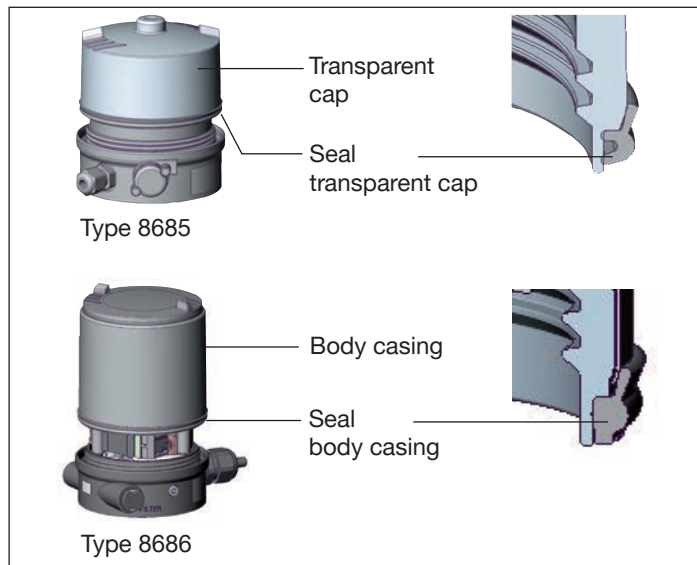

Fig. 32: Position of the seal in the transparent cap / body casing
- Check that the seal is correctly positioned in the transparent cap / body casing (see “Fig. 32”).